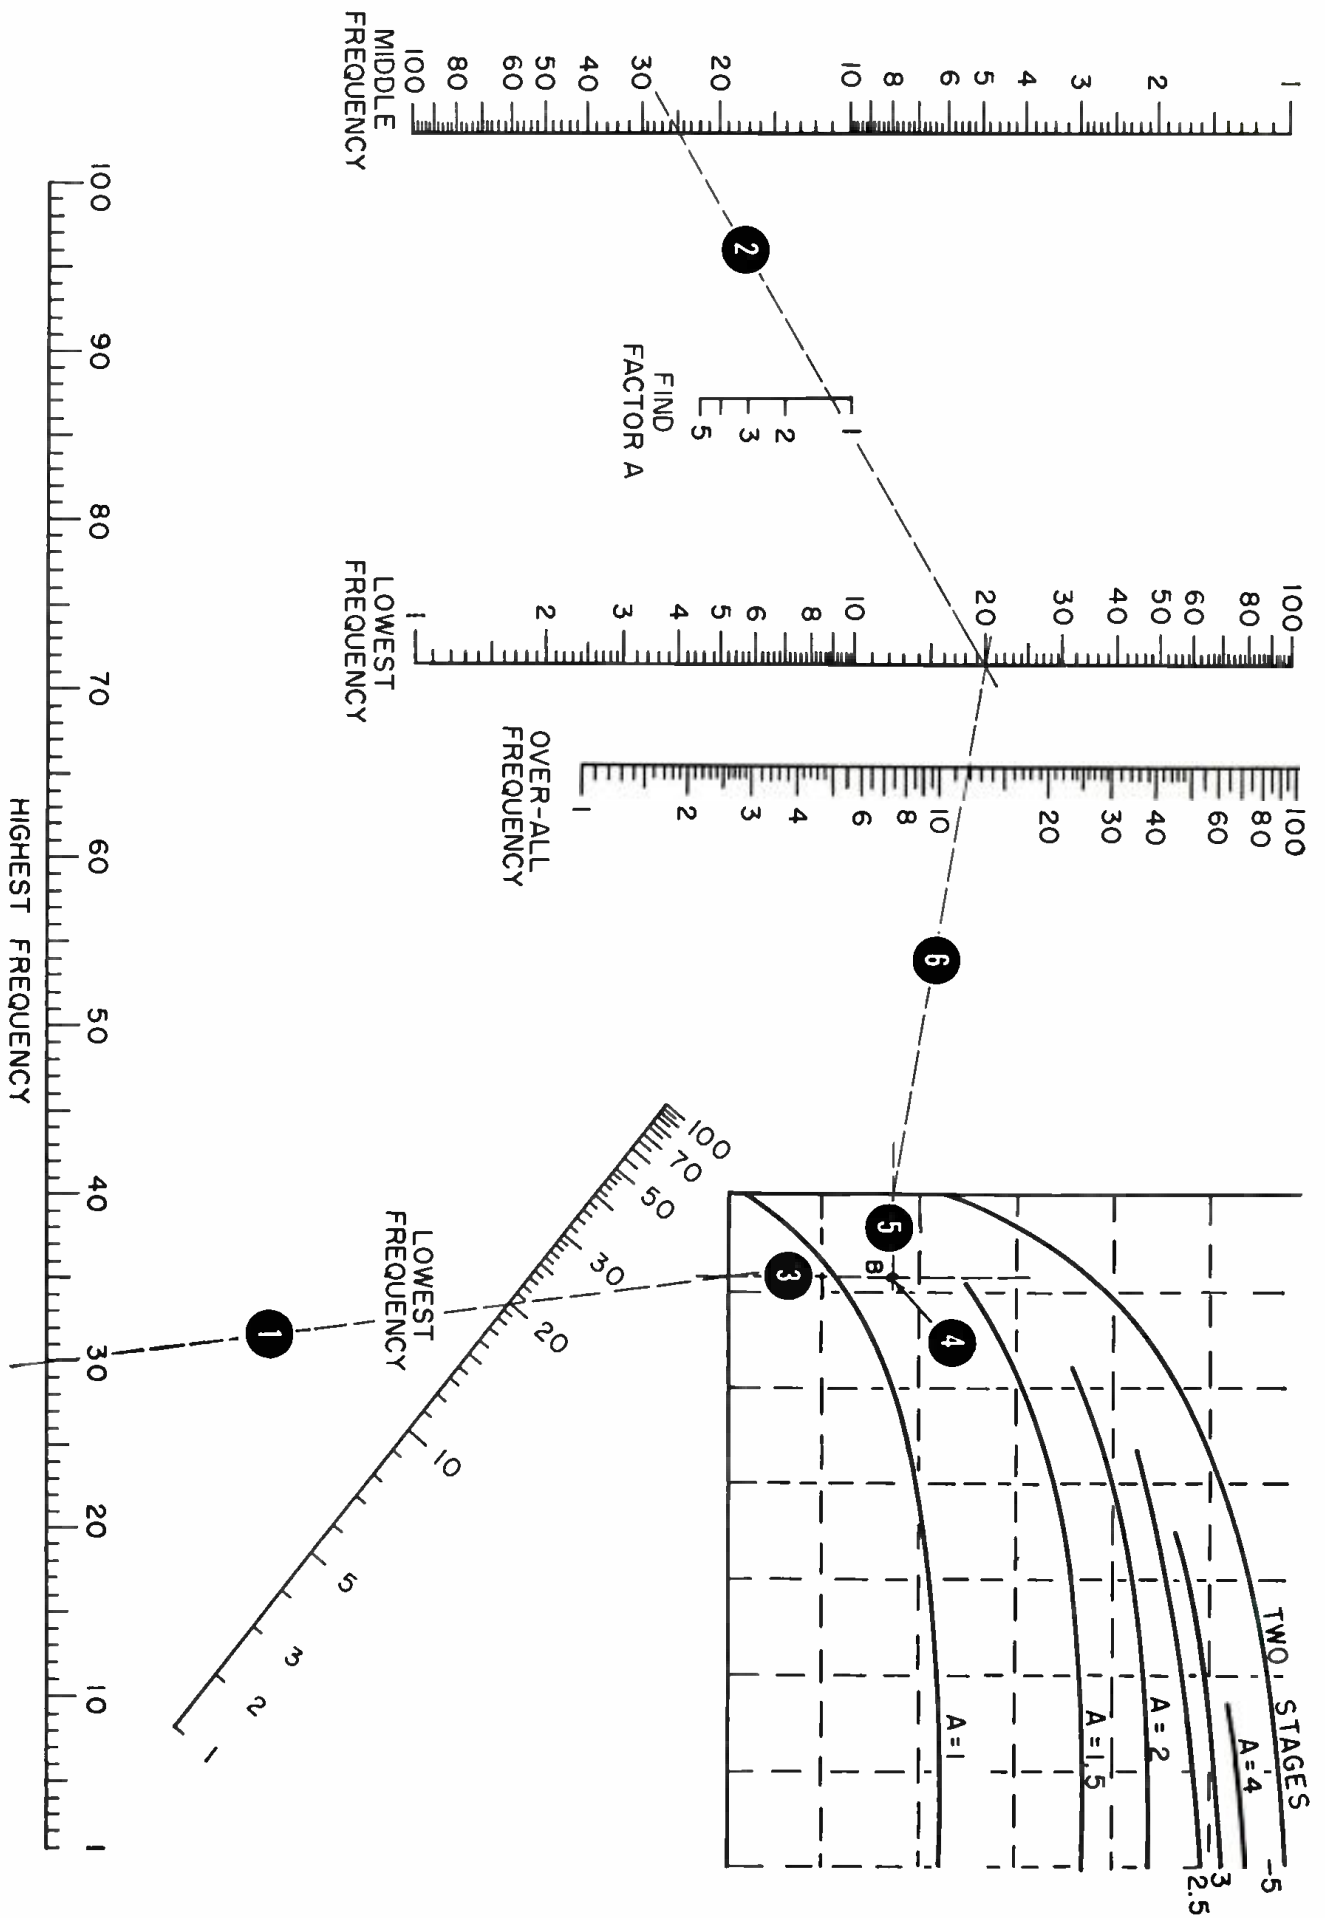

Fig. 1. Supervised group instruction in the laboratory of the high school at Elgin, Illinois.
**I**N RECENT MONTHS, a large number of electronic teaching laboratories, especially language laboratories, have been installed in elementary schools, high schools, and colleges. Monetary aid from the federal government has provided considerable impetus to increased growth of such installations. Essentially, these laboratories, like the one at Elgin High School in Elgin, Illinois, shown in Fig. 1, are specialized sound systems. The service they require can be provided by a technician competent in sound and tape-recorder work who understands their operation and application.